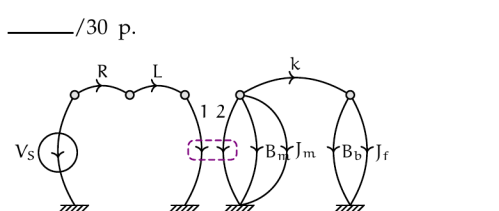

Figure exe.2: a linear graph model of the electromechanical system.
Consider the linear graph model of a motor coupled to a rotational mechanical system shown in Fig. exe.2. This is similar to the model from the Lec. emech.real, but includes the flexibility of the shaft coupler. An ideal voltage source drives the motor—modeled as an ideal transducer with armature resistance R and inductance L , given by the manufacturer in Table real.1. The ideal transducer’s rotational mechanical side (2) is connected to a moment of inertia J_m modeling the rotor inertia and damping B_m modeling the internal motor damping, both values given in the motor specifications. Take $b_2 = B_m$ and $J_1 = 0.324 \cdot 10^{-3} \text{ kg}\cdot\text{m}^2$. Assume the shaft coupling has a torsional stiffness of $k = 100 \text{ N}\cdot\text{m}/\text{rad}$.